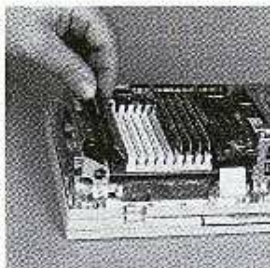

Figure 4-3
- a. Use the ROM SIMM card you prepared using the Macintosh ROM chips. Place the ROM SIMM into its slot at an angle and then tilt it upright while pressing it firmly into the slot. When it is in position, the two side retainers will snap closed. Figures 4-3 and 4-4 illustrate this step.